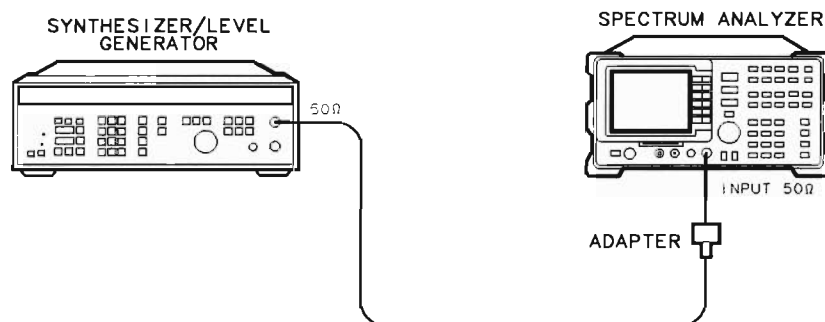

Figure 2-29. Frequency Response Test Setup, < 50 MHz
18. Using a cable, connect the frequency synthesizer directly to the INPUT 50 Ω . Refer to Figure 2-29.